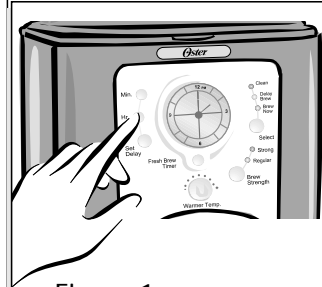

Figure 1
2. Press and hold the HOUR and MINUTE buttons until you reach the current time. The AM or PM indicator will light at the top of the display (Figure 1 and 2)